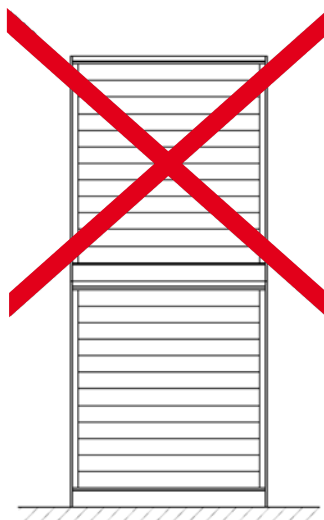

Fig. 14. It is not allowed to pile panels at the building site.
- **To avoid indentations and prints on the panels, it is forbidden to pile panel packages at the construction site – see fig. 14.**